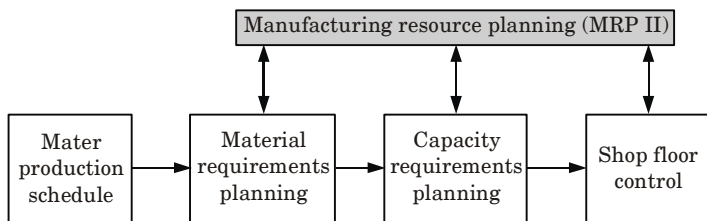

Fig. 2.15.1.
4. MRP II can be considered to consist of three major modules, as illustrated in Fig. 2.15.1.